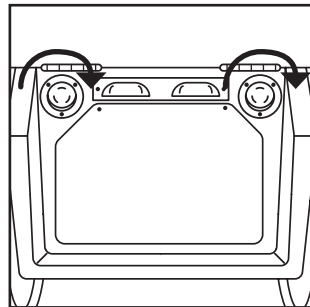

Fig. 3
2. Attach the extension cord to the socket on the back of unit (Fig. 3) and twist it clockwise to lock it in place.